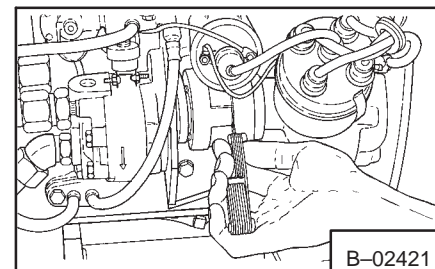

Fig. 4-59 Using Feeler Gauge
9. Pull each coupling half together on drive and pump shaft. Check for .025 inch (.63 mm) clearance between each half of coupling. Use feelers gauge and check all the way around coupling while not turning shaft (Fig. 4-59).
12. Check again for .025 inch (.63 mm) clearance between each coupling half (Fig. 4-59).